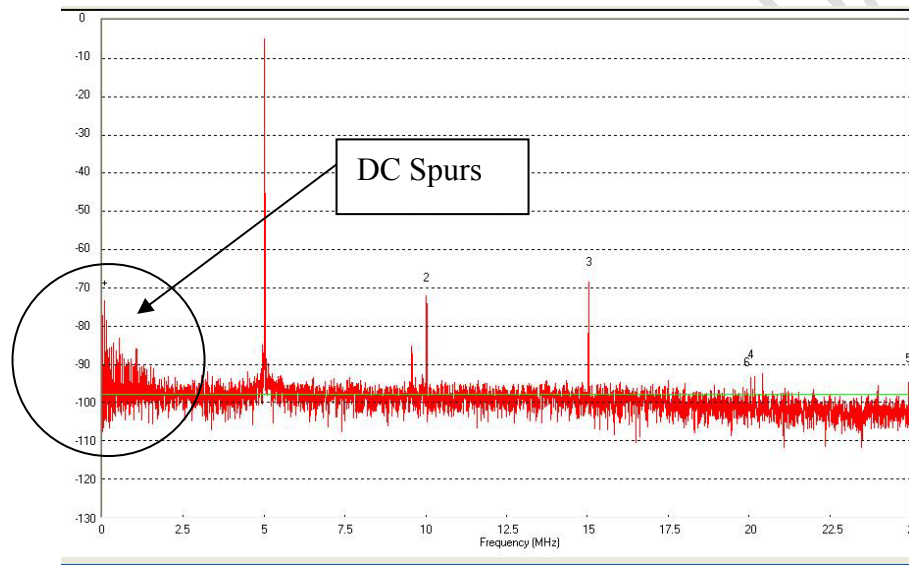

Figure 2: DC Spurs on FFT
- ✓ If DC Spurs appear in the “FFT” plot from VisualAnalog? See Figure 2.